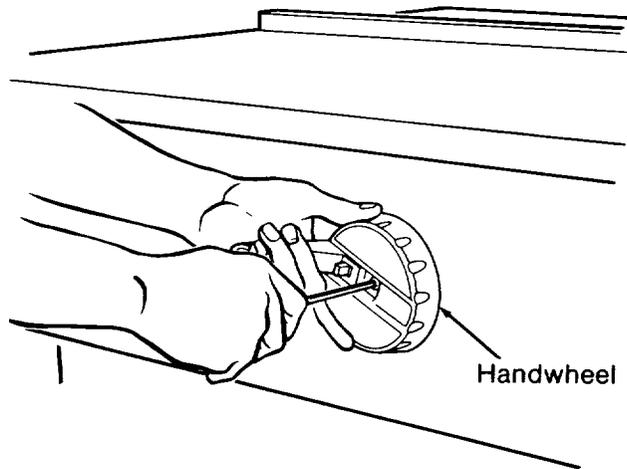

Fig. 34
2. Attach the *handwheel* using a screw and external lockwasher. (Figures 34 & 35)